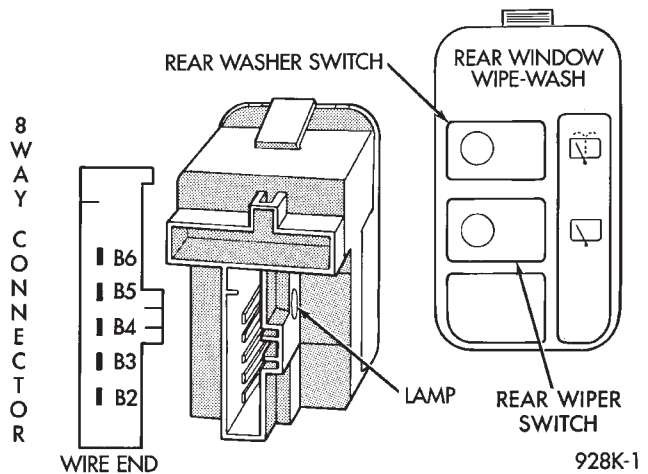

Fig. 29 Rear Wiper/Washer Control POD Switch
- (1) Remove warning indicator grille by prying up with a flat blade tool.
- (2) Remove three mounting screws from the warning indicator module assembly.
- (3) Remove eight screws mounting the cluster bezel to the instrument panel.
- (4) Tilt column down if possible for ease.
- (5) Gently pull cluster bezel out, to gain access to the switch assembly's snap fingers and push switch out through mounting hole for POD switch assembly (Fig. 29).